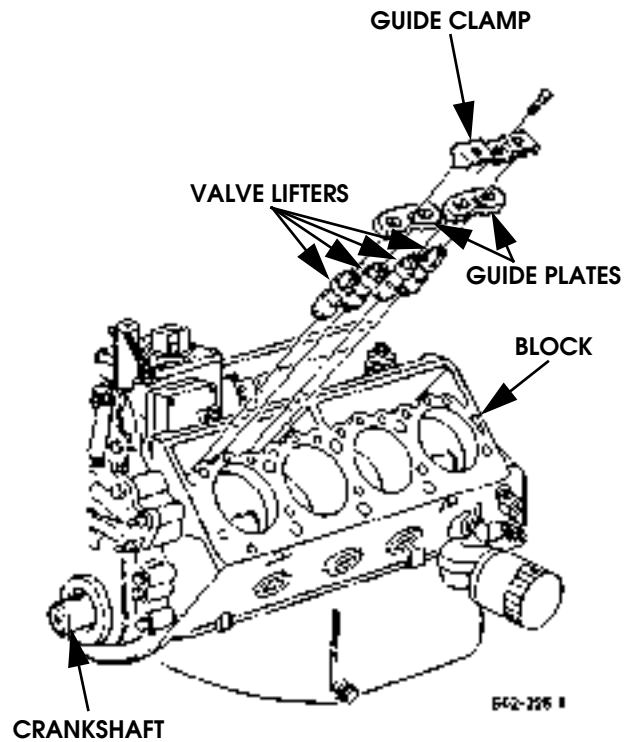

Figure 2-175: Valve Lifter Installation
3. Position guide plates on lifters. Then install guide clamps and bolts. Tighten bolts to 15-20 lb-ft (20 -27 N•m) (Figure 2-175).